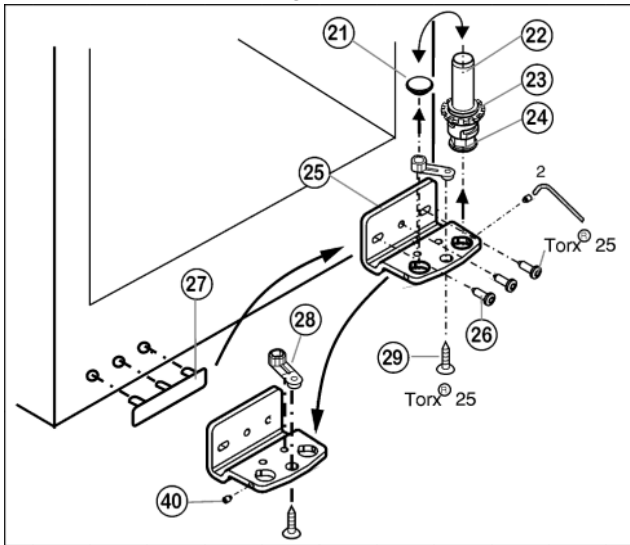
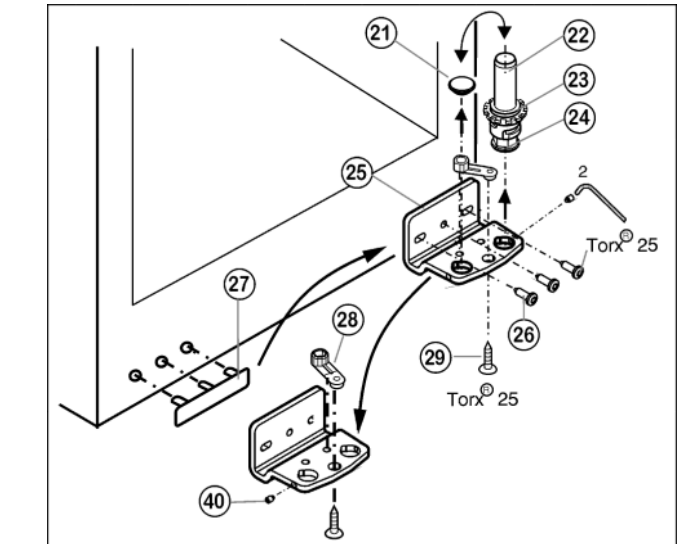

Fig. 7\*
Fig. 8\*
- ▶ Using the accompanying Allen key, unscrew the threaded pin Fig. 7 Fig. 7 Fig. 7 Fig. 7 Fig. 7 (40) by about 1 turn.
- ▶ Turn and lift out the bearing pin Fig. 7 Fig. 7 Fig. 7 Fig. 7 Fig. 7 (22) together with washer Fig. 7 Fig. 7 Fig. 7 Fig. 7 Fig. 7 (23) and adjustable-height foot Fig. 7 Fig. 7 Fig. 7 Fig. 7 Fig. 7 (24).
- ▶ Lift off the stopper Fig. 7 Fig. 7 Fig. 7 Fig. 7 Fig. 7 Fig. 7 (21).
- ▶ Unscrew the turn hinge Fig. 7 Fig. 7 Fig. 7 Fig. 7 Fig. 7 (25).
- ▶ Fully unscrew the threaded pin Fig. 7 Fig. 7 Fig. 7 Fig. 7 Fig. 7 (40) and screw it in on the opposite side, at the turn hinge, until it is flush outside with the turn hinge.
- ▶ Unscrew the bearing element Fig. 7 Fig. 8 (28), turn it through 180° and screw it firmly into place.
- ▶ Unscrew storage section Fig. 7 Fig. 8 (28) and fit it to the opposing locating bore in the mounting block, then tighten it down.
- ▶ Re-insert the stopper Fig. 7 Fig. 7 Fig. 7 Fig. 7 Fig. 7 (21) into the other hole.
- ▶ Carefully lift off the cover on the handle side Fig. 7 Fig. 7 Fig. 7 Fig. 7 Fig. 7 (27) and transfer it to the opposite side.
- ▶ Screw the turn hinge Fig. 7 Fig. 7 Fig. 7 Fig. 7 Fig. 7 (25) firmly into place on the new hinge side, possibly using a cordless screwdriver (with 4 Nm).
- ▶ Re-insert the bearing pin Fig. 7 Fig. 7 Fig. 7 Fig. 7 Fig. 7 (22) together with washer and adjustable-height foot.
- ▶ Tighten the threaded pin Fig. 7 Fig. 7 Fig. 7 Fig. 7 Fig. 7 (40).
- ▶ Place the door from above onto the lower bearing pin Fig. 7 Fig. 7 Fig. 7 Fig. 7 (22).
- ▶ Align the door to the appliance housing by way of the two oblong holes in the bottom turn hinge Fig. 7 Fig. 7 Fig. 7 Fig. 7 (25). To do so, unscrew the middle screw.